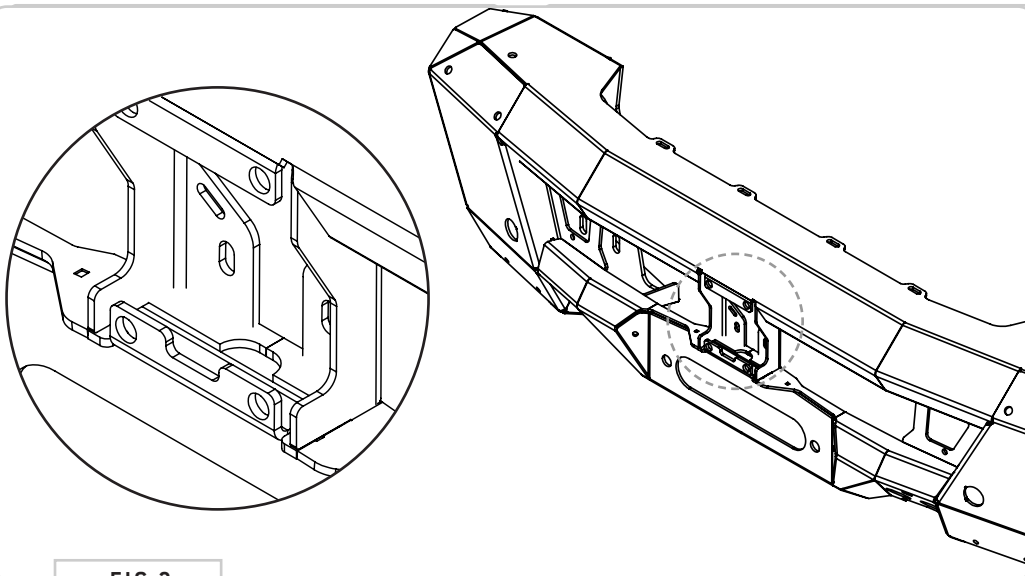
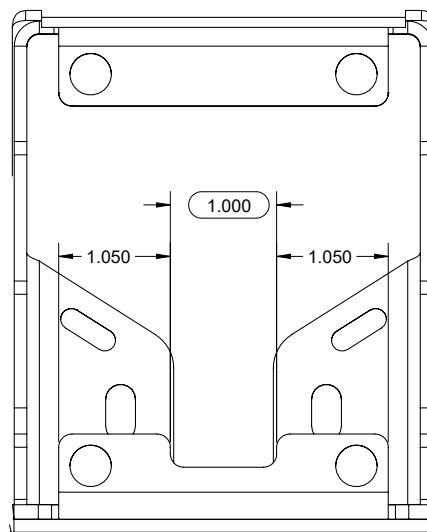

FIG 3
FIG 4
**2.1 Layout Cut Line:** Identify the **Center Bracket** of your **FVC Front Bumper (FIG 3)** and layout your **Cut Line** using a marker and referencing the dimensions shown in **FIG 4**.